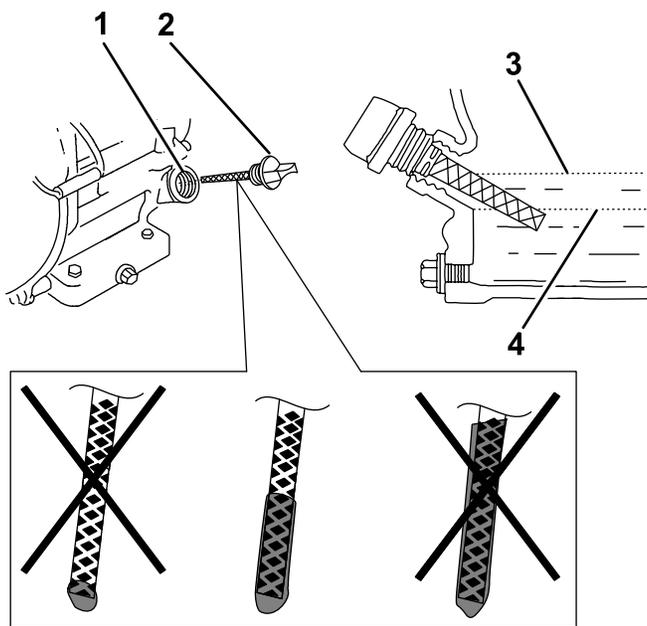

Figure 9
3. Clean around the dipstick (Figure 9) so that dirt cannot fall into the fill port and damage the engine.